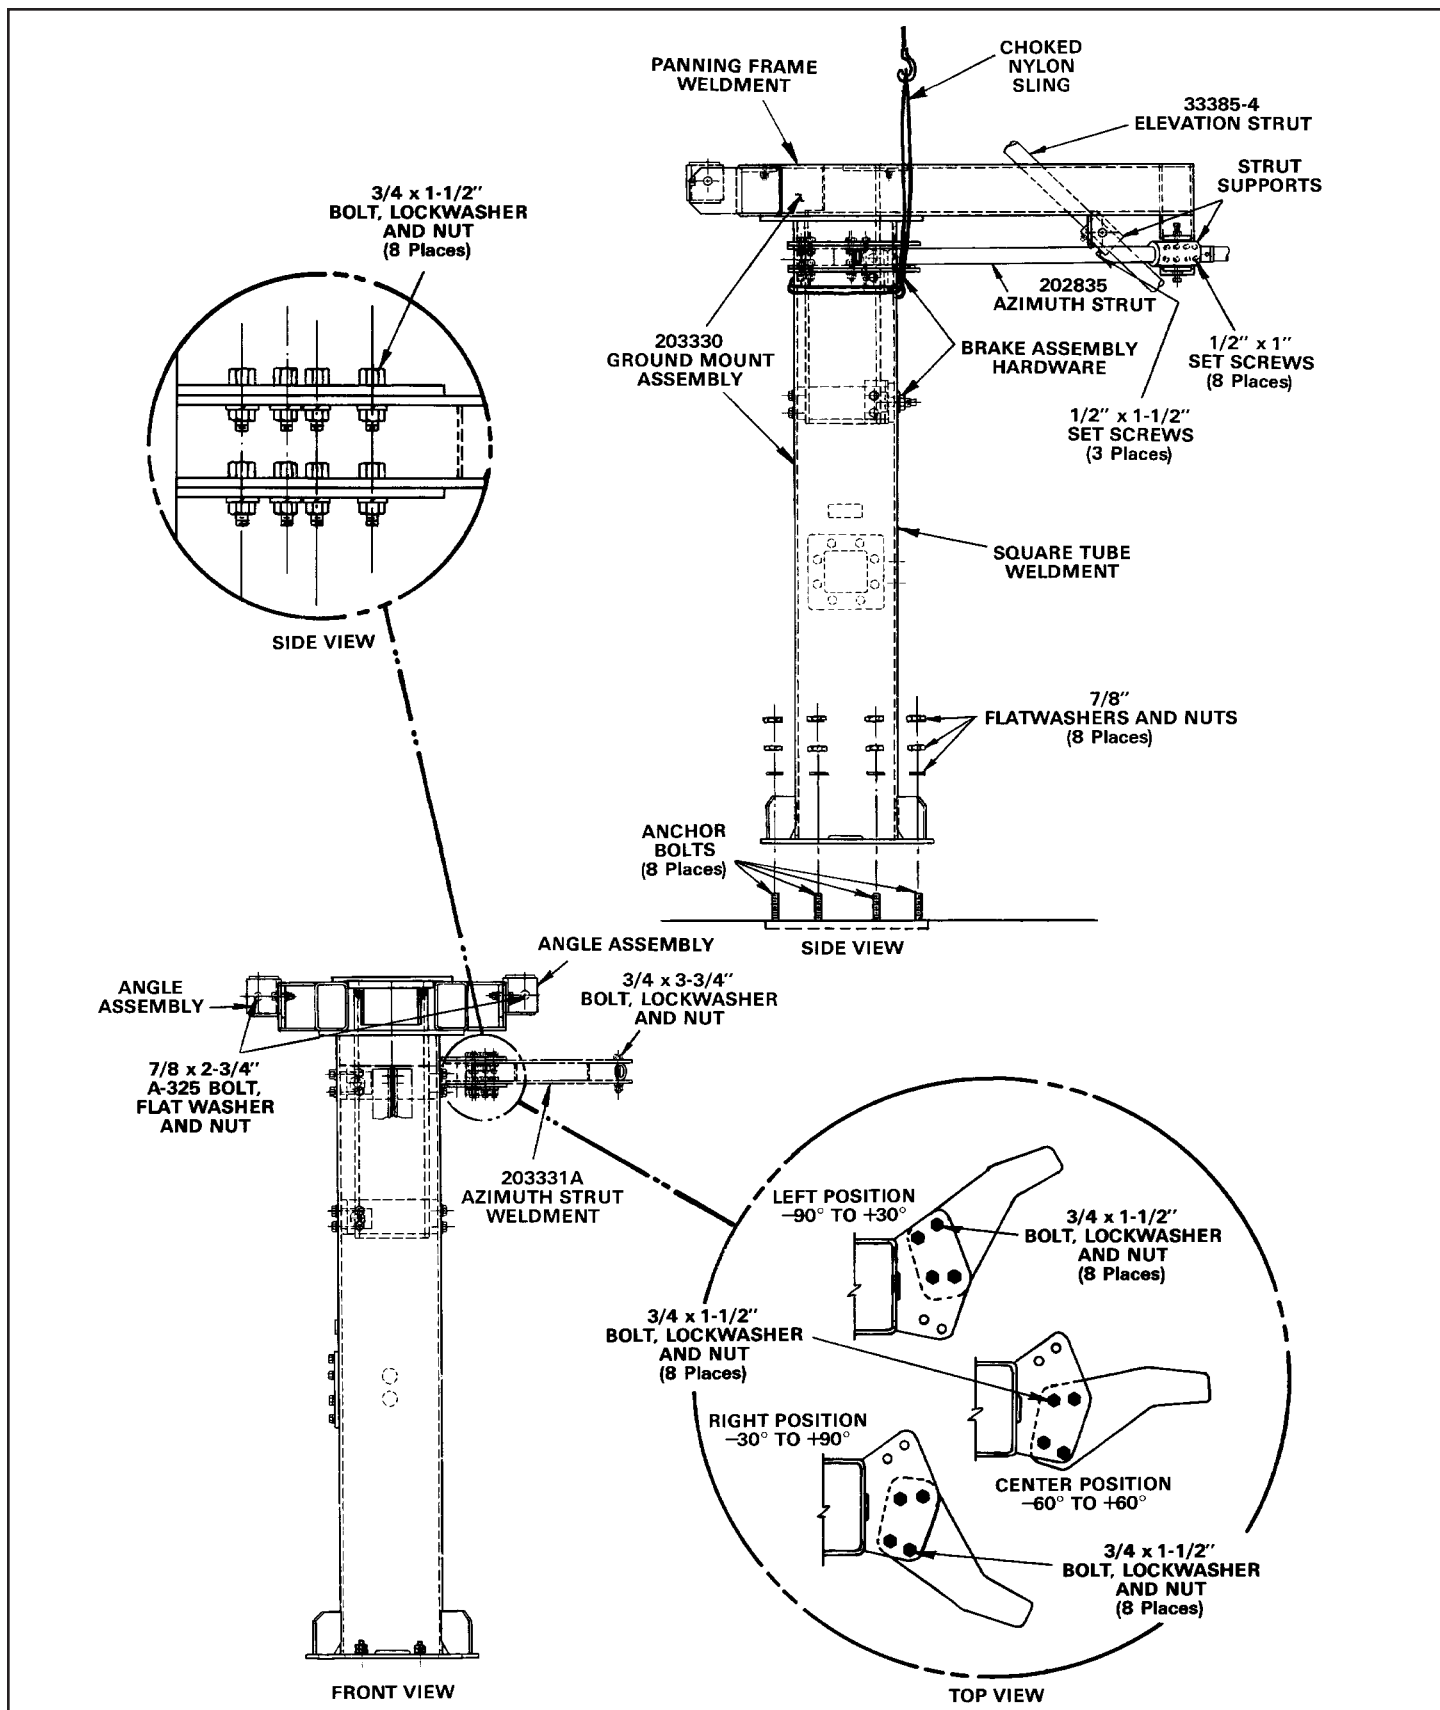

Figure 1
2.2 Refer to Figure 1. Carefully remove 203330 ground mount assembly from packing crate. Securely attach crane/hoist as shown using nylon sling. **Note:** Use of a 1 ton minimum capacity crane or hoist will be required for proper ground mount installation.
2.4 Position and mount 203331A azimuth strut weldment to ground mount assembly as shown using 3/4 by 1-1/2 in bolts, lockwashers and nuts. **Note:** Mounting position of azimuth strut weldment is dependent upon predetermined azimuth range requirements as shown in Figure 1, top view.